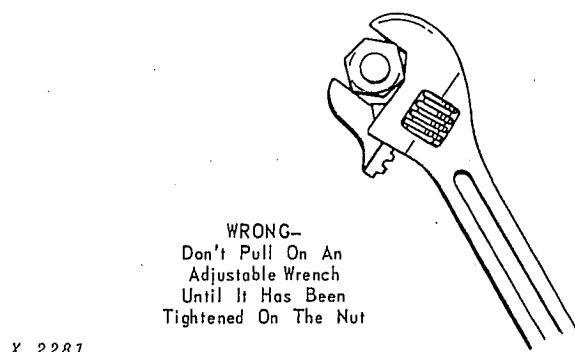

Fig. 27 — Tighten The Adjustable Wrench On The Nut
- 2. After placing the wrench on the nut, tighten the adjusting screw so that the wrench fits the nut snugly (Fig. 27). Otherwise the nuts will be rounded off.*